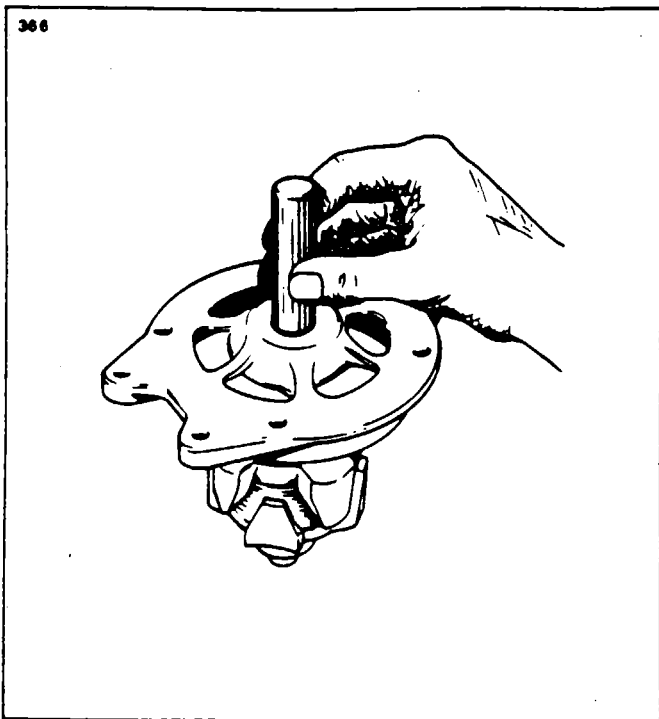

Figure 24-9. Installation of Bearing
1. Press the ball bearing into the drive end head using a flat block approximately two inch square so that the pressure is exerted on the outer race of the bearing. Install the retainer plate. With the snap ring and retainer cup in place on the rotor shaft, use a tool that fits over the shaft and against the inner bearing race, and press until the inner bearing race is against the snap ring retainer cup. (Refer to Figure 24-9.)